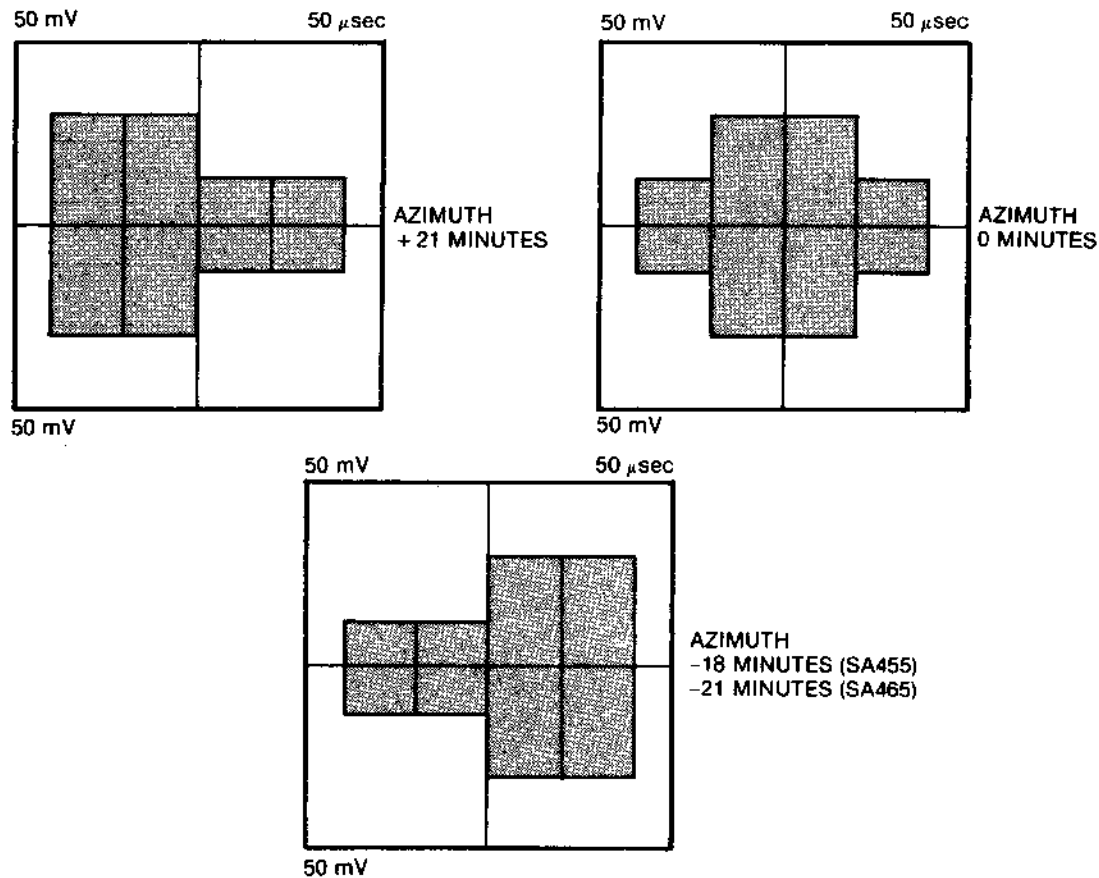

FIGURE 5-8. AZIMUTH CHECK
- Compare waveform to figure 5-8. If not within range shown, replace read/write head assembly.